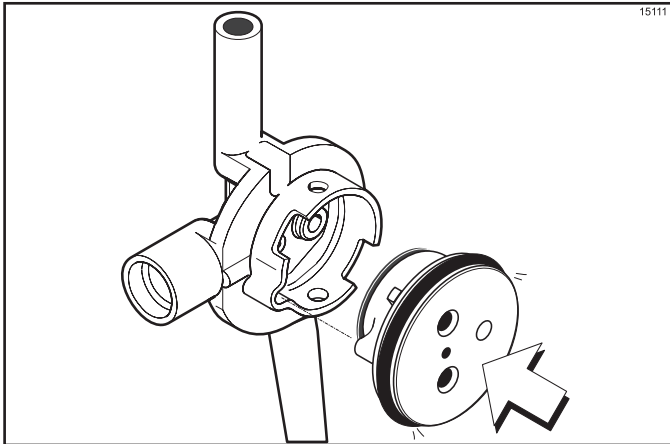

Figure 6-28
7. Insert the valve cap into the hole in the mix inlet adaptor. (See Figure 6-28.)